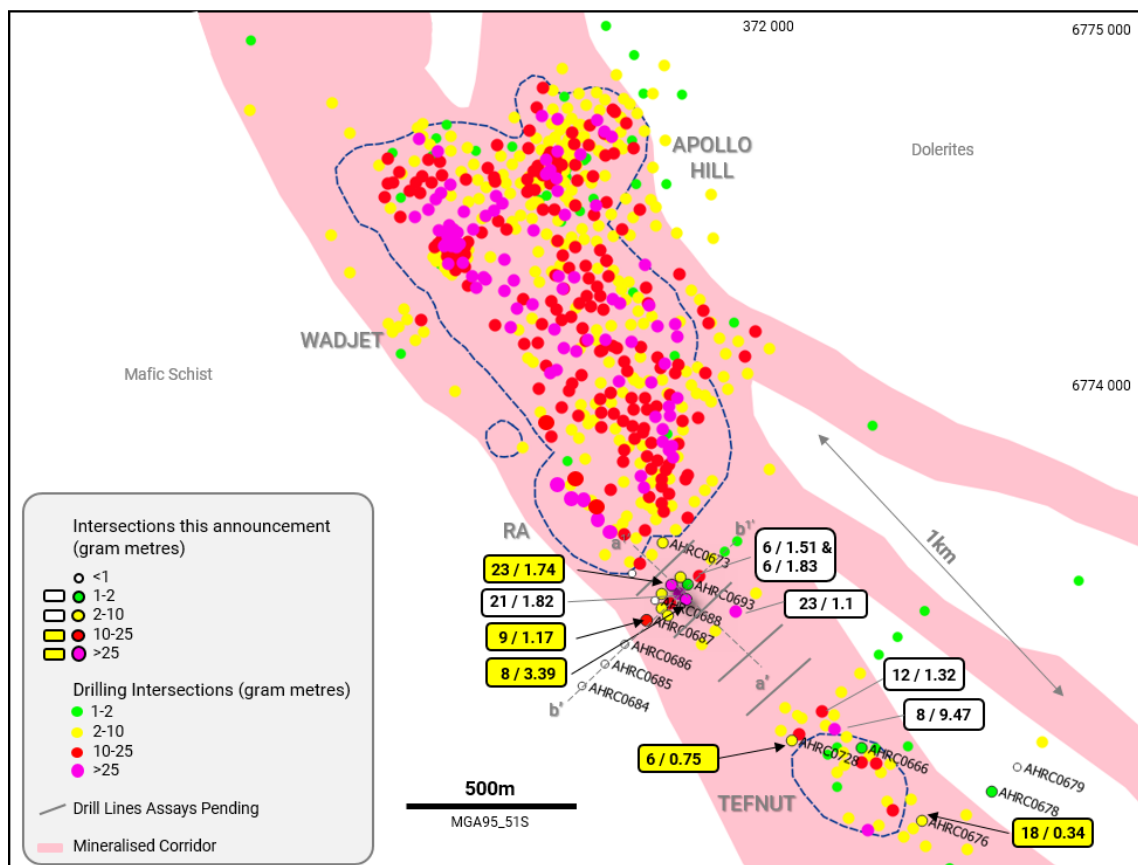

Figure 1 – Resource extension drilling and results and holes for which assays remain pending relative to the published resource.
- New results highlight consistency between drill sections on the southern strike extension of the Apollo Hill mineralised corridor (Figure 1).
- This is only the third round of assays reported from this new area and assays remain pending for a further 30 RC drill holes (5,000m) drilled to test the zone (Figure 1).
Results complement assays reported in March and April including **21m @ 1.82g/t Au** from 57m in AHRC0646 (Saturn ASX Announcement dated 22 March 2021). Importantly, strongly mineralised intersections are being repeatedly returned in shallow extensional positions on this major corridor over a 1.4km strike length (Figure 1). Saturn continues to focus on this under-drilled opportunity with assays pending along strike.